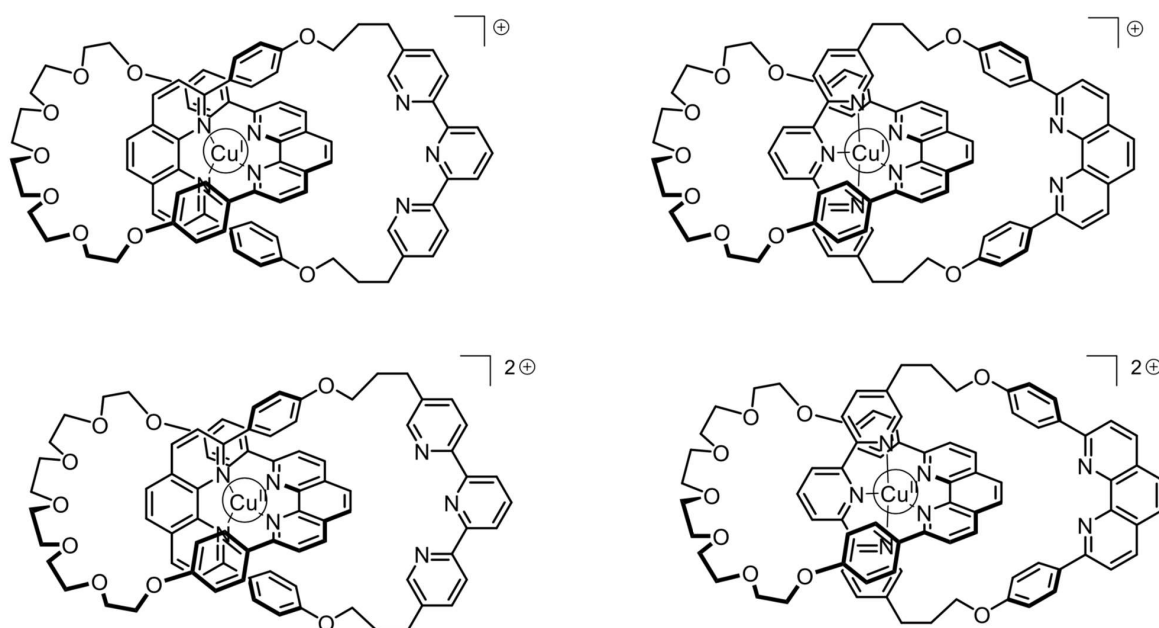

Fig. 2 – [2]catenane **L** states
11. **Fill** in the solid boxes with the labels of the involved complexes in Fig. 2 and **complete** the sequence to depict how electrochemical control of the system would be achieved. Use the following notation for the dashed boxes:  (rotation); $+e^-$; $-e^-$.